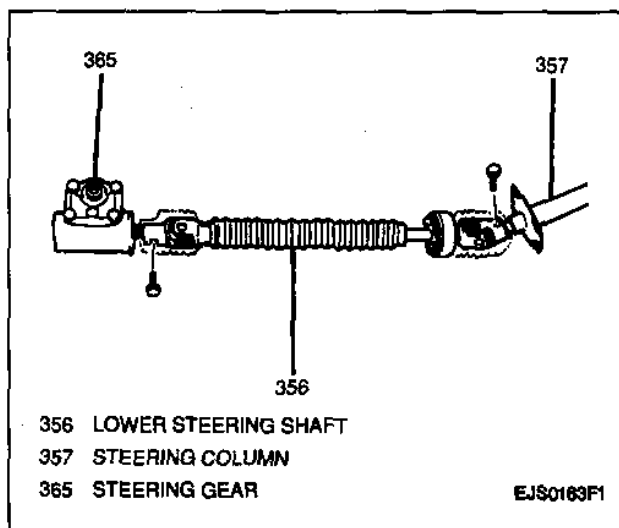

Figure 20—Lower Steering Shaft Bolts
6. Lower shaft-to-steering gear joint bolt (Figure 20).